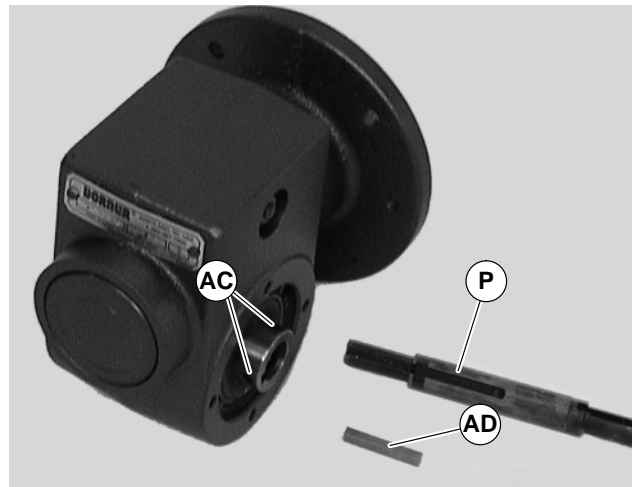

Figure 38
8. Remove gear reducer output shaft keys (I).
9. Loosen six (6) set screws (AC of Figure 38). Remove drive shaft (P) and key (AD).
11. Replace the original shaft components into new gear reducer (see Figure 38).